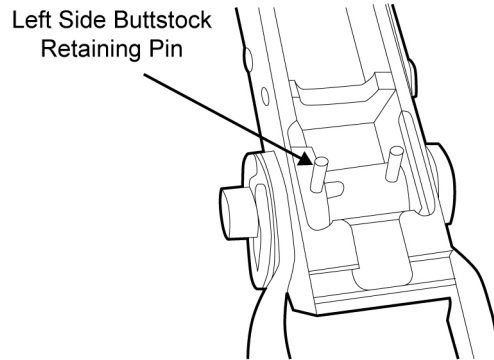

Figure 50. The Left Side Buttstock Retaining Pin Installed.
- g. Using a punch as a slave pin inserted from the bottom of the receiver, ensure that the holes in the buttstock catch, slots in the buttstock axle, holes in the release button, and holes in the axle pivot are aligned. When aligning the parts, ensure that the buttstock release spring is on the right side of the pin. Insert the buttstock retaining pin through the top of the buttstock catch, ensuring that it is threaded through both sides of the buttstock catch. Refer to Figure 50.